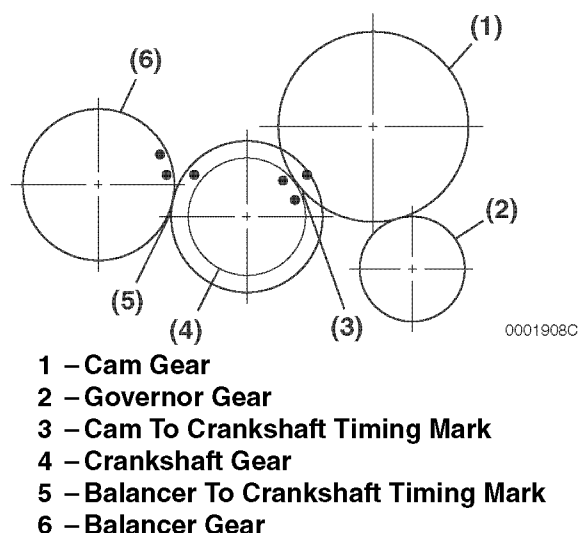

Figure 6-101
8. Align the timing marks (**Figure 6-101, (3)**) on the camshaft gear and crankshaft gear as the camshaft is being installed.
Note: Balancer shaft gear marks (**Figure 6-101, (5)**) and camshaft gear marks will not align at the same time with crankshaft gear marks as shown in (**Figure 6-101**). The balancer shaft gear and camshaft gear marks must match to crankshaft gear marks independently.
9. Rotate crankshaft to ensure crankshaft timing marks align **Figure 6-101** to the balancer shaft and camshaft marks independently.